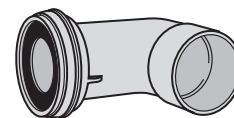

Fig.37 128.405.92 WC Connector
**128.405.92 WC Connector** (single socket) (Fig.37)